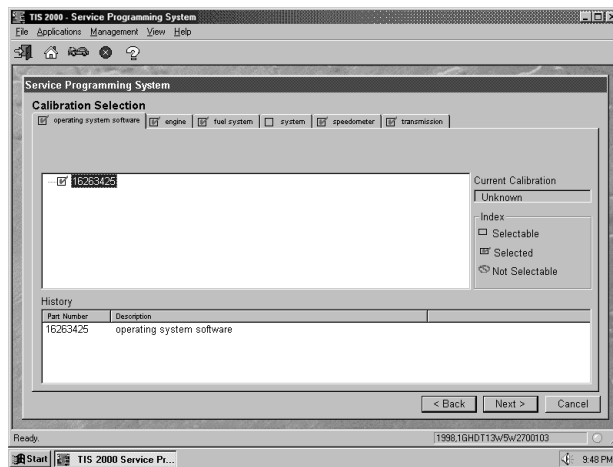
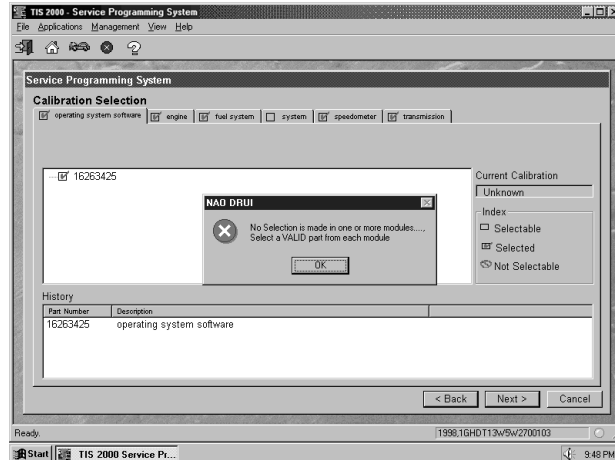

FIGURE 8-26. Operating System Software Folder on Calibration Selection Screen
FIGURE 8-27. Incomplete Module Selection Message on Calibration Selection Screen
- Vehicles with VCMs display a screen similar to the one shown in Figure 8-26. It contains multiple “tabs”—one for each distinct calibration file contained in the VCM. With these vehicles, it is necessary to make a selection within each tab, otherwise the system displays the message shown in Figure 8-27, indicating that not all selections have been made (notice the unchecked box in the system tab).